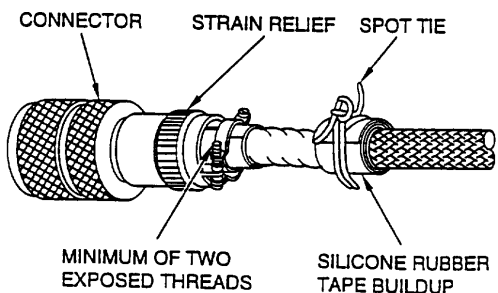

Figure 42. Final Rear Accessory Assembly
m. Continue to wrap tape over exposed wire and onto cable jacket one width of tape (Figure 42).